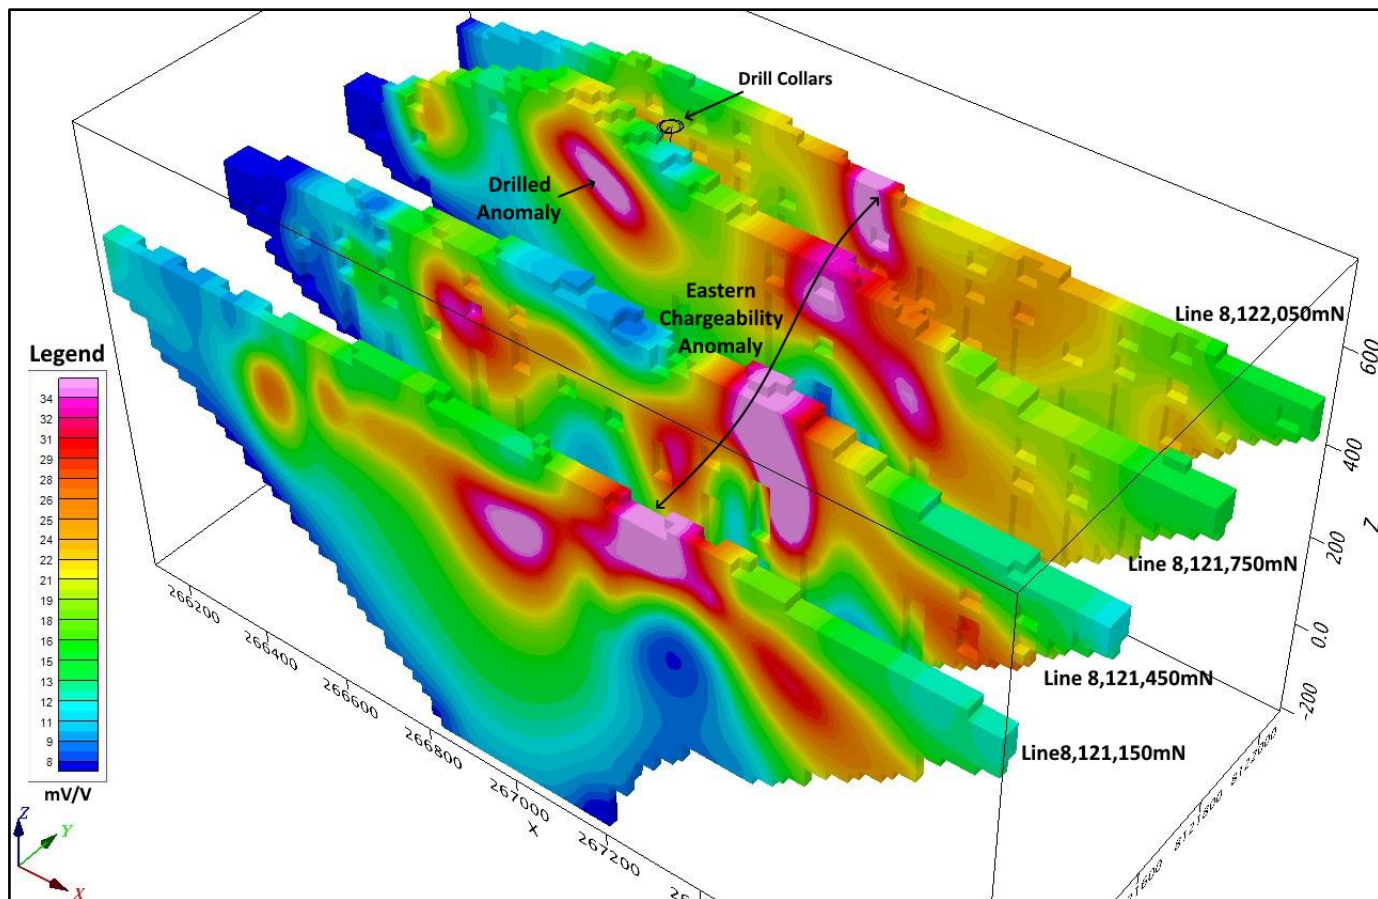
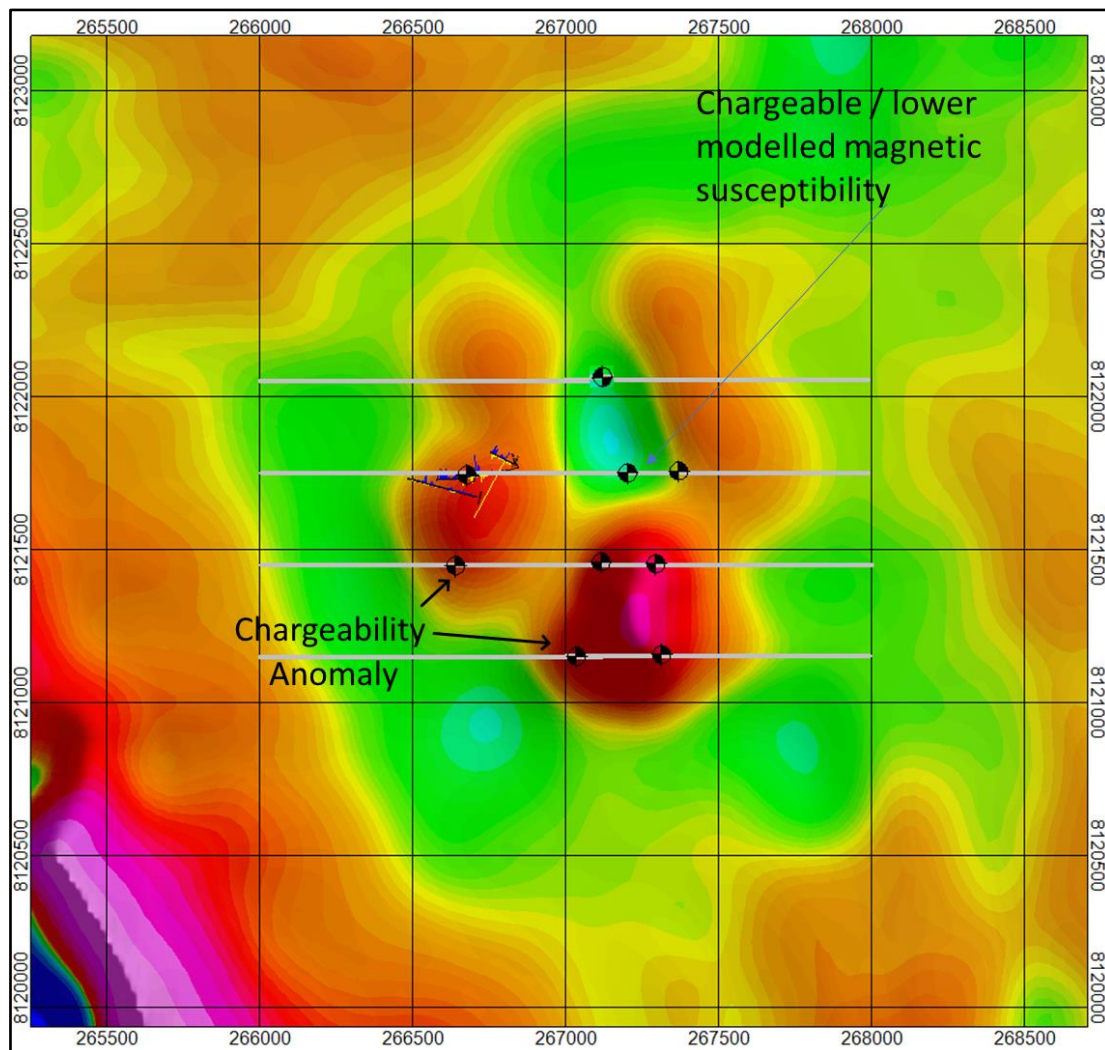

Figure 3: Maneater Hill Chargeability Sections.
Figure 6: Maneater Hill Chargeability Anomalies & Magnetic Susceptibility High Background
- Pole Dipole Induced Polarisation (PDIP) has delineated a new 900m long chargeability high anomaly over the Maneater Hill (EPM28038) magnetic anomaly in QLD (Fig 3)
- Part of the chargeability anomaly is associated with a magnetic susceptibility high in the southern zone and remnant magnetic susceptibility in the northern zone (Fig 6)
- Chargeability high is open to both the north and south, up to 400 metres deep, up to 150 metres wide and located near to surface (Fig 3)
Pleasingly, the survey data has confirmed a new 900m long chargeability high anomaly associated with the Maneater Hill magnetic anomaly (Fig 3) and has allowed NMR’s technical team to prioritise new drill targets within the project area ahead of planned follow-up drilling later this year.
The completed ground PDIP survey has identified several chargeability high anomalies on the eastern side of all four of the surveyed lines as well as identifying a chargeability high below the drilled Maneater Peak breccia (Fig 3 & Fig 6).